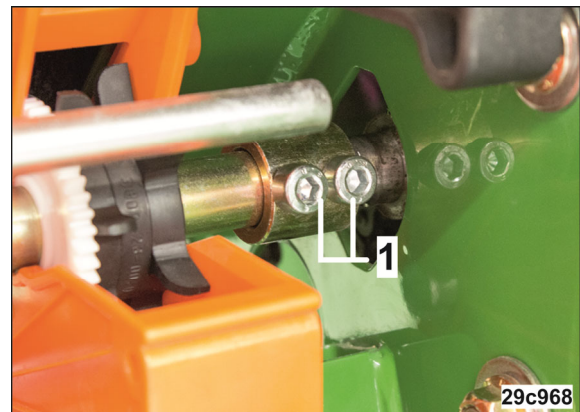

Fig. 251
4. Unscrew the bolts (Fig. 251/1).